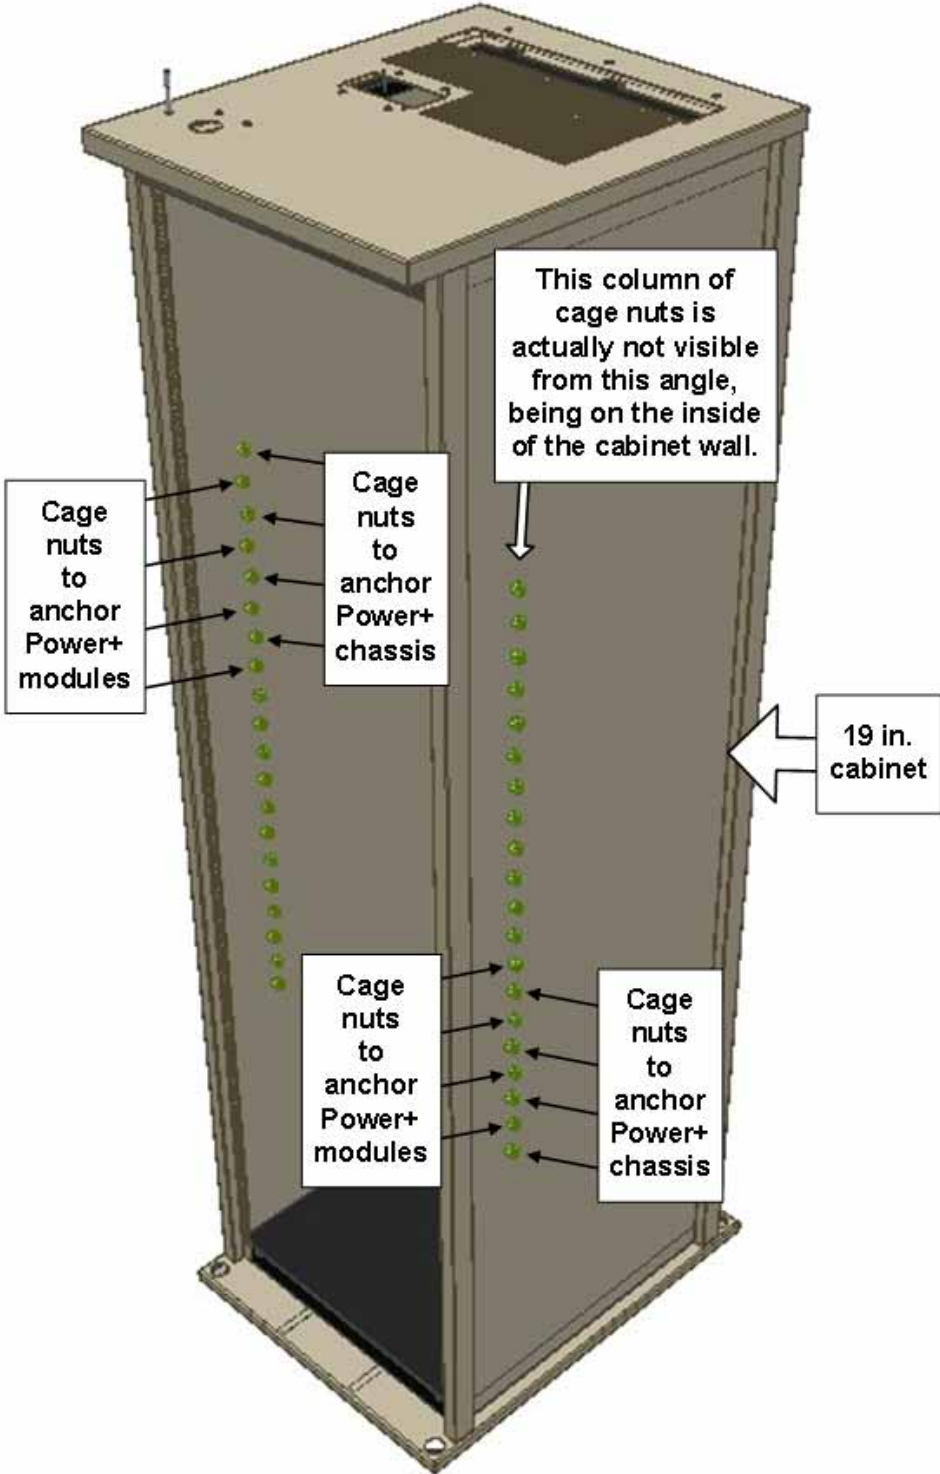
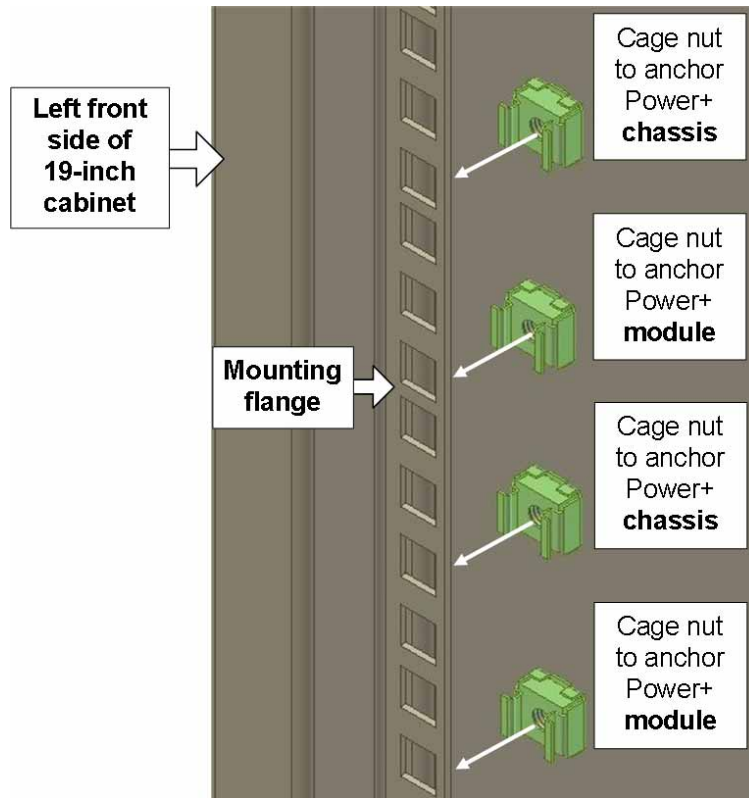
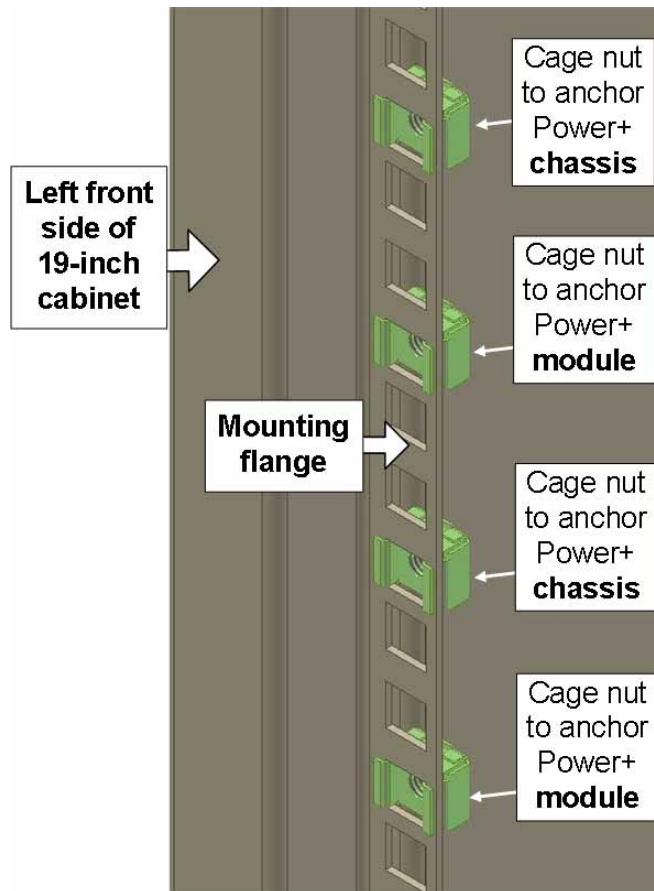

Figure 7: Installing the Freestyle in a rack (c)
Figure 8: Installing the Freestyle in a rack (d)
Figure 9: Installing the Freestyle in a rack (e)
6. Install cage nuts on the right and left mounting flange of the 19-inch cabinet. Cage nuts must be installed for the controller and for each UPS unit, and cage nuts must be installed for the purpose of anchoring the PowerPlus chassis to the 19-inch cabinet. Generally speaking, the cage nuts should be installed in alternating fashion – one for anchoring the chassis, one for anchoring the UPS module, one for the chassis, one for the module, and so on. See Figure 7, Figure 8, and Figure 9.